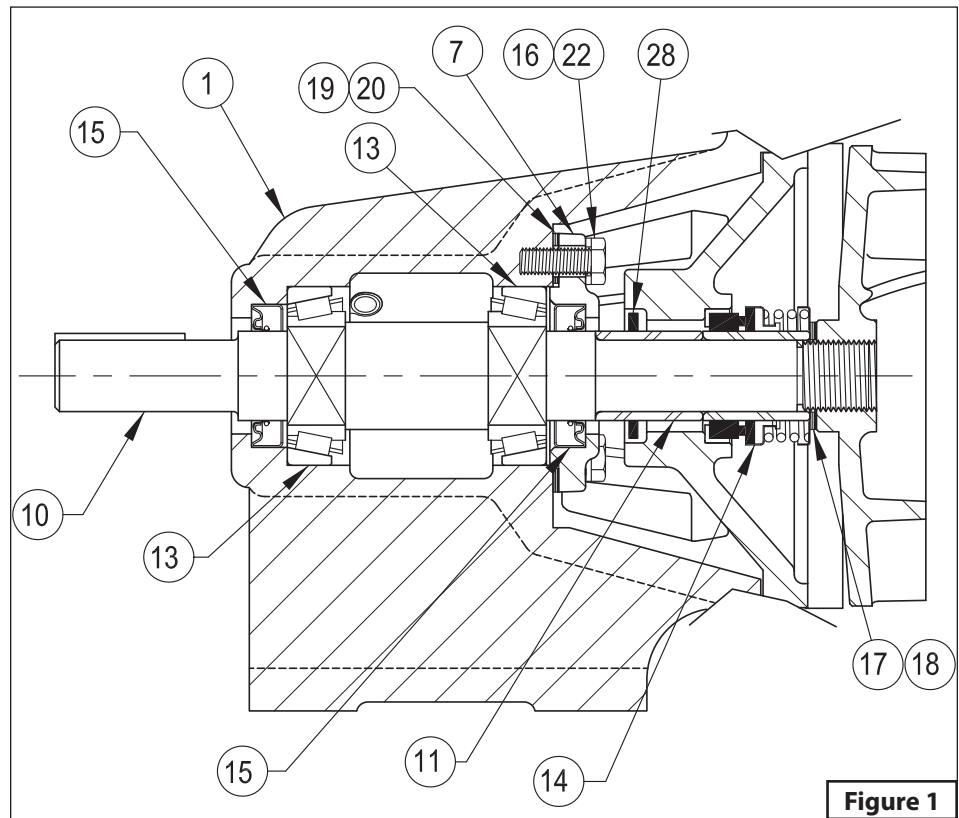

Figure 1
Press new oil seal (15) into pedestal with open end toward bearing. (See Figure 1) Press the cone and roller of drive end bearing (13) onto shaft (10) seating it snug against the shaft shoulder, with the taper running toward impeller end of shaft.